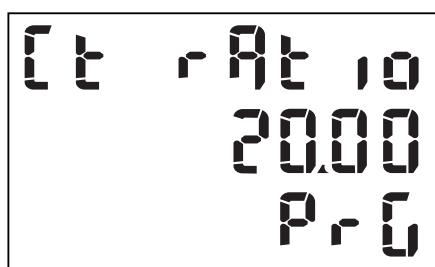

Figure 26: Ct rAtio screen, set to transformer ratio 20
- ▶ Enter the new transformer ratio, e.g. 20 as in Figure 26.